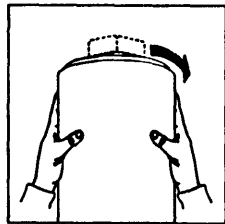

Fig. 4
- Swing cylinder housing up against the twist-lock hinge cover plate and by grasping the cylinder housing with both hands rotate the entire housing clockwise until the internal locking mechanism snaps into place as shown in Fig. 4.